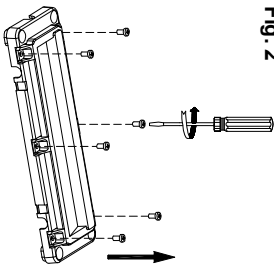

Fig. 3
- Feed the mains supply cable through the grommet and secure the luminaire to the wall using suitable screws for the substrate Fig. 3.